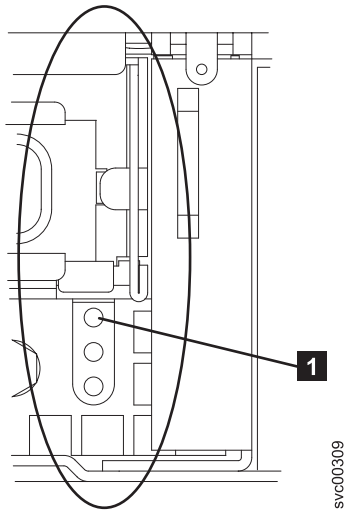
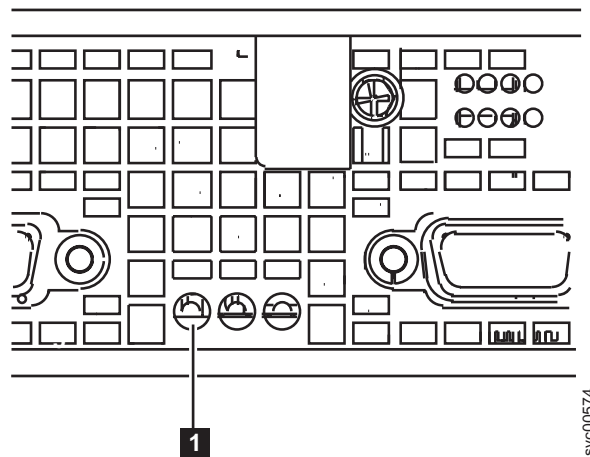

Figure 83. Power LED on the SAN Volume Controller models 2145-8G4, 2145-8F4, and 2145-8F2 rear panel
Figure 84. Power LED indicator on the rear panel of the SAN Volume Controller 2145-CF8
**Is the rear panel power LED on or flashing?** Figure 83 on page 368 shows the location of the power LED **1** on the rear panel of the 2145-8G4, 2145-8F4, or 2145-8F2 nodes. Figure 84 on page 368 shows the location of the power LED **1** on the 2145-CF8.
**Is the power supply error LED on the rear of the SAN Volume Controller 2145-CF8 power supply assemblies illuminated?** Figure 84 on page 368 shows the location of the power LED **1** on the 2145-CF8.